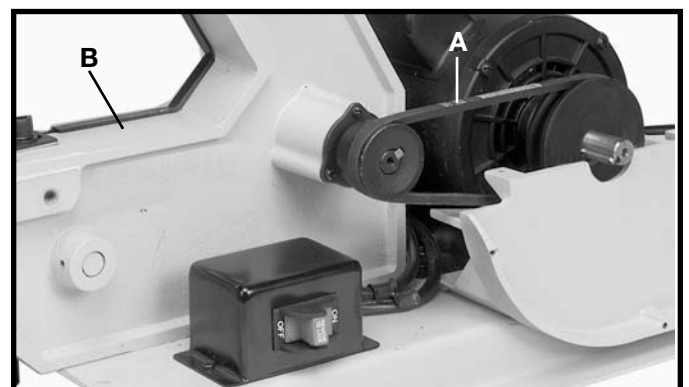

Fig. 4
2. Assemble the drive belt (A) Fig. 4, to the two pulleys, as shown.
3. Slide the belt sander frame assembly (B) Fig. 4, forward until there is approximately 1/4 to 1/2 inch deflection in the belt (A) at the center span of the pulleys using light finger pressure.